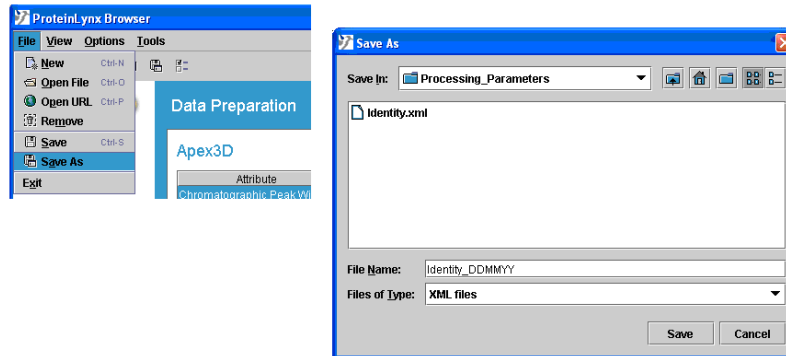

Figure 99 - Processing parameter
21. Click **File > Save As** and enter an appropriate name for the Processing Parameters (Figure 99).